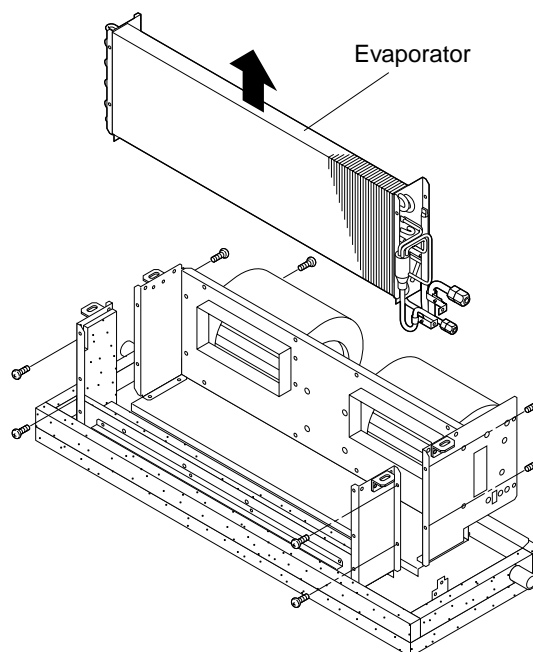

Fig. 3
- (3) Remove 8 screws holding the evaporator. (Fig. 3)
- (4) Lift the evaporator up out of the unit. (Fig. 3)